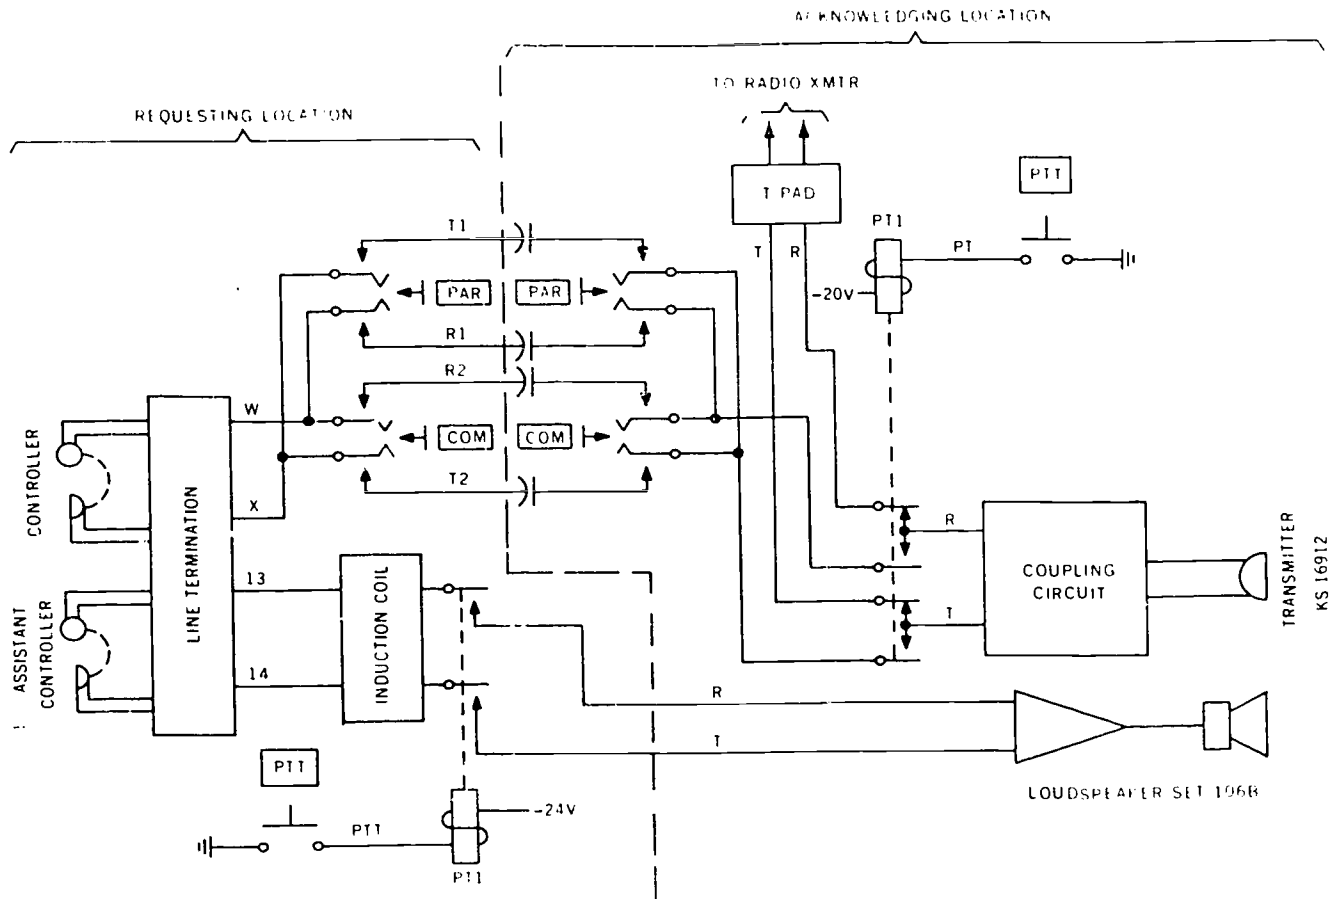

Figure 5-23. Schematic diagram of one-way voice circuits in 302 switching unit.
Contacts 4 and 6 of operated relay PT1 complete the connections between the controller's radio and wire termination (see FO 5) and the primary of the "A" induction coil. The voice circuits are shown with heavy black lines. Accordingly, the primary of the induction coil is connected by means of leads 13 and 14 to the controller's headset, and the secondary of the induction coil is connected with tip (T) and ring (R) at the tower. Figure 5-23 shows that the T and R leads terminate at the loudspeaker in the control tower.
We learned that the controller operates the PAR switch at his or her position to complete the one-way precision approach radar voice circuit. Foldout 6 shows that this operated PAR switch connects the X and W leads from the controller's headset to the T1 and R1 leads of the cable. Figure 5-23 also reveals this switch connection. The COM switch operating principle compares to the PAR switch operation. From the simplified schematic of figure 5-23 you can realize that the circuit difference is that the cable conductors T2 and R2 are connected by the operated COM switch to the X and W leads from the controller's headset.